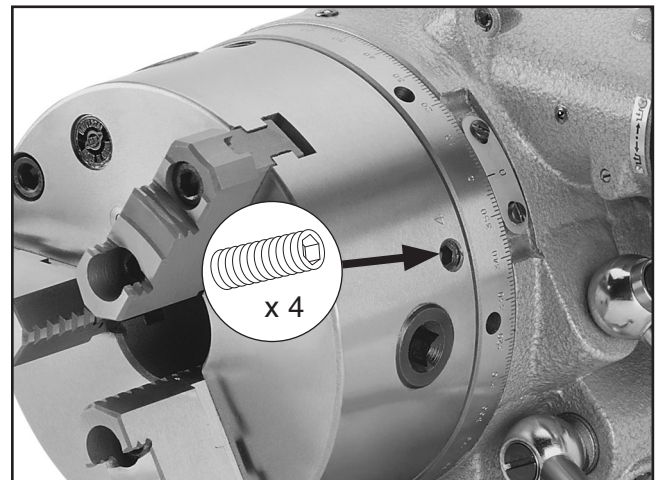

Figure 7. Chuck alignment set screw.
3. Loosen the four aligning set screws along the outside edge of the chuck until they are flush with the surface of the chuck body (see **Figure 7**).